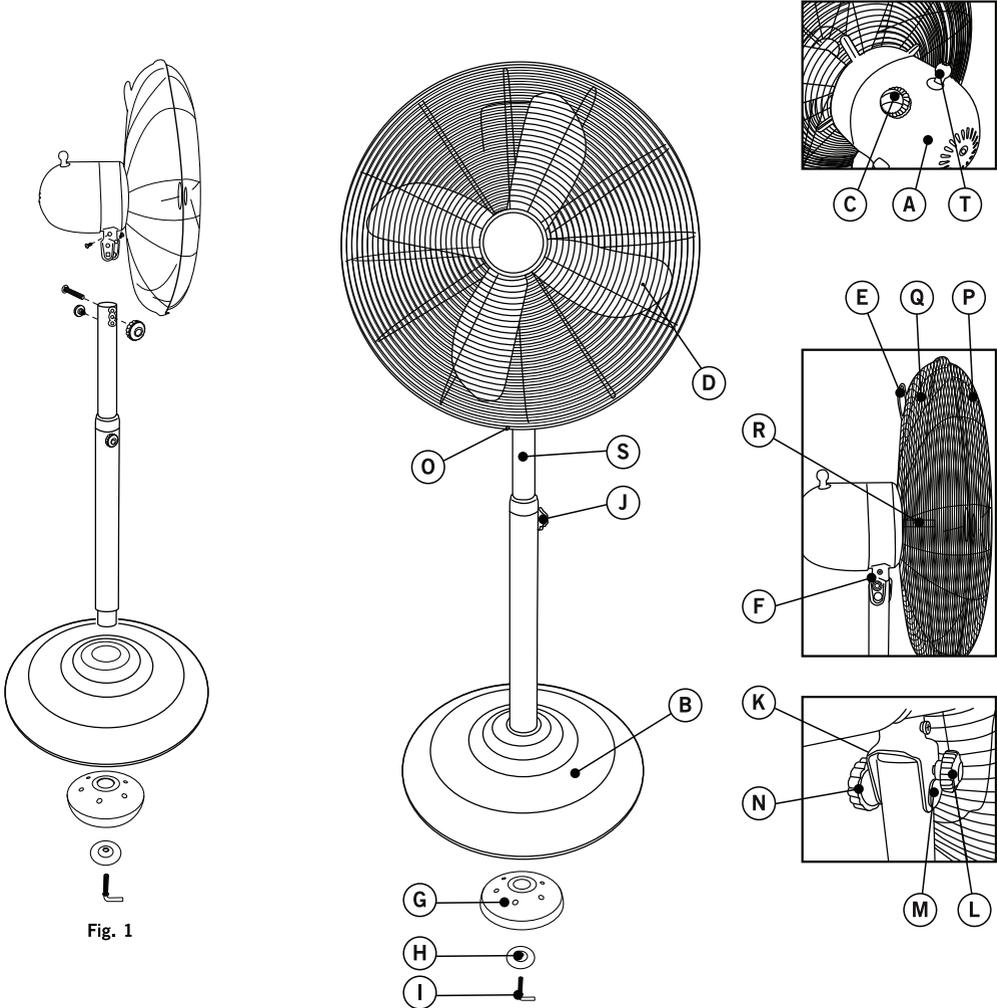

Fig. 1
- Fit the Adjustable Column (S) into the hole in the Support Base (B), place the counterweight (G) underneath the Support Base (B) and secure with the "L" shaped screw (I) inserting the washer (H) between the base and "L" shaped screw (I) (Fig.1)
- Fix the motor body (A) to the adjustable column (S) through the support motor (F) and fix in place with the motor body screw fastening (K) and the motor body fastening lever (L) making it coincide with the appropriate holes. Next introduce the incline adjustment screw (M) into the appropriate hole and tighten it with the inline adjustment lever (N)
- Unscrew the 4 screws and remove the washers situated further back from the front part of the motor body (A) Using these 4 screws screw in the rear grate (Q), leaving the carrying handle (E) on the upper part of the appliance.
- Insert the fan propeller (D) in the motor shaft (R) until the hole in the fan propeller coincides with motor shaft groove. Next use the fan propeller tightening screw to tighten it completely.
- Position the front grill (P) on to the back grill (Q), press them together ensuring that an accurate fitting between the two grills and alignment with the clips on the front grill. Make sure that the hole in the front grill coincides with the security screw (O).
- To ensure that the front and rear grills are securely fitted together secure each one with the security screw (O). This should be introduced through the hole so that the grille's cannot be separated without the help of a tool.